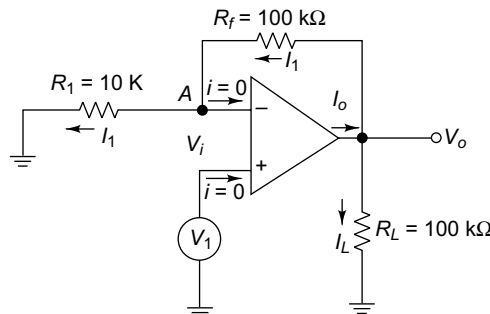

Fig. 5.86
21. Figure 5.86 shows the non-inverting amplifier, where $R_1 = 10 \text{ k}\Omega$, $R_L = R_f = 100 \text{ k}\Omega$ and $V_1 = 5 \text{ V}$. Calculate (a) V_o , (b) gain (c) I_1 , (d) load current I_L , and (e) output current I_o .